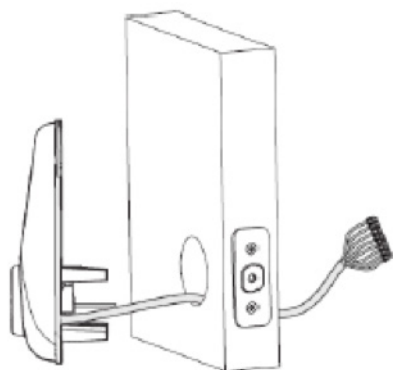
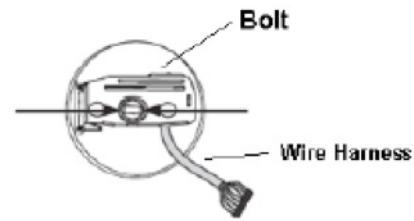

Figure 1A
Figure 1B
- › Remove the inside mounting plate (with gasket) from back (door side) of the inside latch (Fig. 1B).
1. Install Outside Touchscreen side of the lock first (Fig. 1A). Route wire harness through bore hole under bolt (Fig. 1B). Ensure tongue slides through black deadbolt hole (Fig. 1B arrow pointed).
**Note:** Wire harness goes under bolt (Fig. 1B).